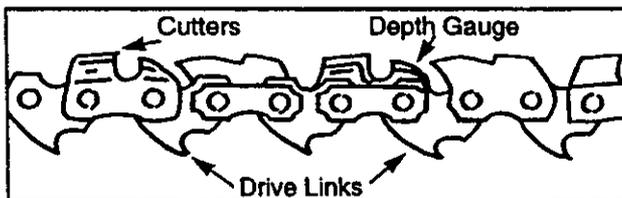

Figure 38
- Carefully remove new chain from package. Hold chain with the drive links as shown in Fig 38.